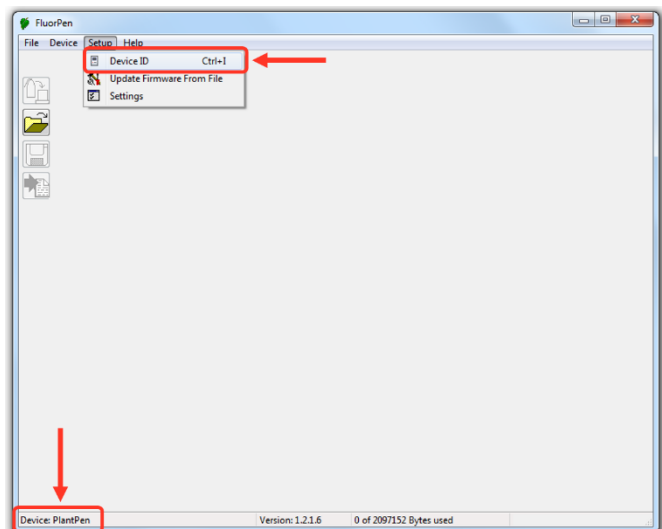

Fig. 12 Connecting PlantPen with software.
5. In the software select: **Setup > Device ID (Ctrl+I)**. If properly connected, the message "Device: PlantPen" appears in the bottom part of the screen (Fig. 12). If the connection is not successful then message "Device not found" will appear. In the latter case check all the connections (USB) and Bluetooth pairing.